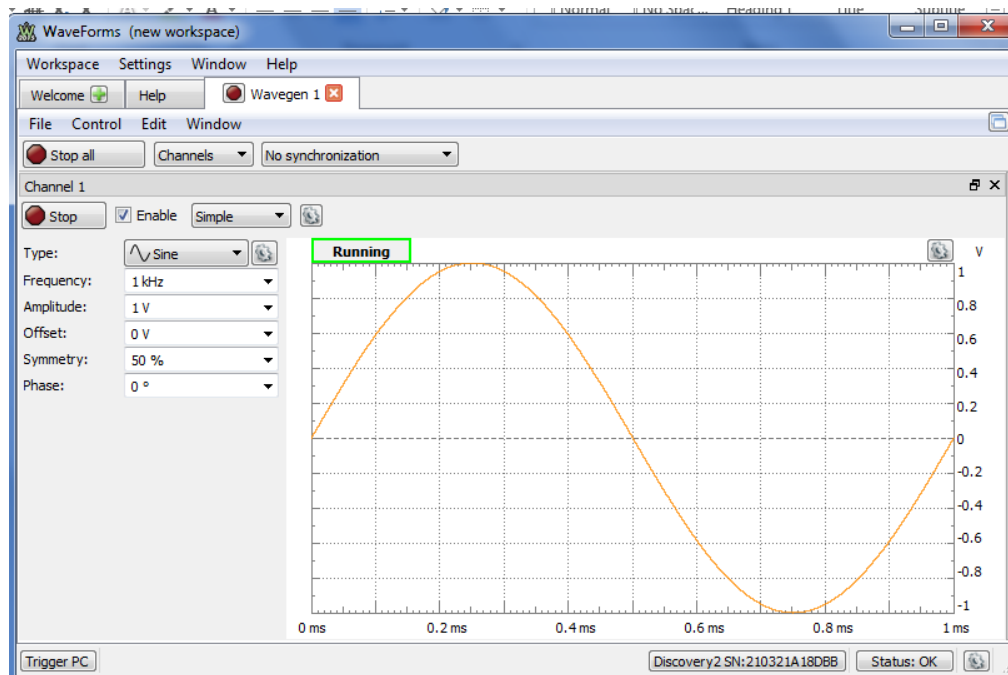
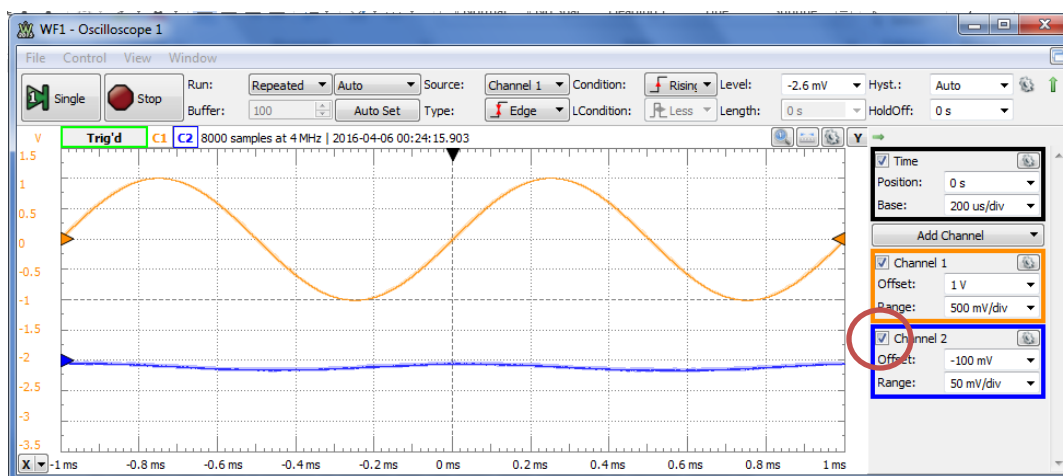

Fig 6. WaveGen set for a 1 kHz sinewave with a 1V amplitude.
Fig 7. Oscilloscope display after AutoSet. To deactivate Channel 2, uncheck the box circled.
Fig 6. Oscilloscope display (right) showing the sinewave generated by the WaveGen instrument (left). Note that the Scope display has been “popped out” of the WaveForms window by double-clicking on the “Scope 1” tab.
8) Oscilloscopes have a number of settings that can make them confusing to operate. However, one nice feature is the AutoSet button (also found on most real oscilloscopes). Unfortunately, this button is hidden by default – to find it, click the green “down arrow” (circled in Figure 6 above) to reveal a second row of buttons. The expanded toolbar is shown with AutoSet circled in Figure 7 below. Click this button and wait for the system to calibrate. You may get a display that looks something like this.